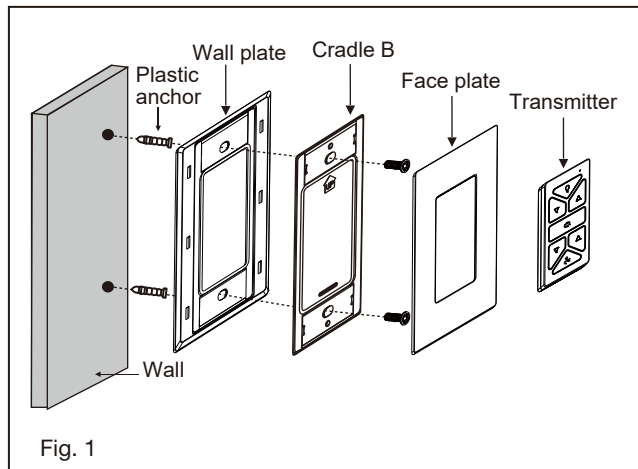

Fig. 1
- 1 Remove ball from downrod by loosening set screw in the side of the ball. Slide ball down and remove cross pin; remove ball. (Fig. 1)
1. Insert the receiver into the ceiling mounting bracket with the flat side of the receiver facing the ceiling. (Fig. 1) For best performance, make sure the Black Antenna and WIFI Antenna, on the end of the receiver, remains extended and not tangled with any of the electrical wires.
- 1 Fasten blade to motor with provided blade screws and flat washers. Repeat procedure for remaining blades. Make sure screws are **TIGHT**! Loose motor screws can contribute to unnecessary hum during operation. (Fig. 1)
- 1 While holding the LED assembly under your fan, make the polarized plug connections: (Fig. 1)
- 5 While holding the Lamp shade under your fan. (Fig. 1)
- 6 Raise the Lamp shade against the fan and turn clockwise until snug, DO NOT OVERTIGHTEN. (Fig. 1)
- 1 Select a desired location. Use the wall plate to mark the location of the mounting holes. Plastic wall anchors or mounting screws are needed for this application. (Fig. 1)
Remove the panel from the transmitter and then install one 2032 battery (included). You need to use a screwdriver to open or close the battery cover. To prevent damage to transmitter, remove the battery if not use for long periods of time (Fig. 1)